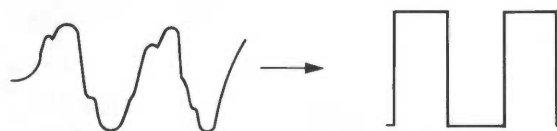

Fig. 2.1.1
- Adjust VR403 to obtain the waveform shown in Fig. 2.1.1.